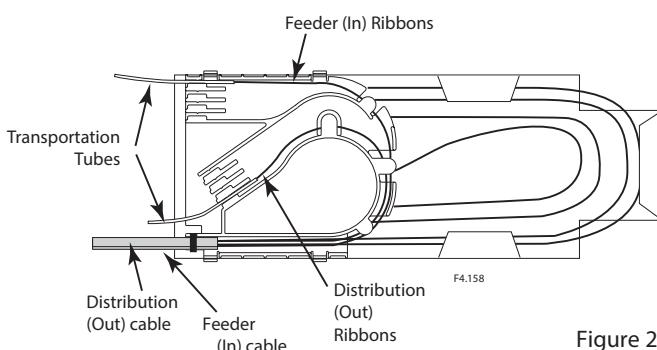
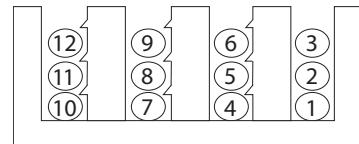

Figure 2
Figure 3: Distribution Tube Arrangement
4. Attach both central core tube ends to the ribbon router with one large tie wrap. (Figure 2) The distribution or "out" cable should be on top.
6. Route the ribbons to be spliced through the ribbon router as shown in Figure 2.
7. Place up to six ribbons into a single transportation tube. Insert the transportation tube into one of the distribution slots on the ribbon router as shown. (Figure 2) Up to three transportation tubes can be stacked in each slot. Fill the slots in the order indicated. (Figures 3 and 4)